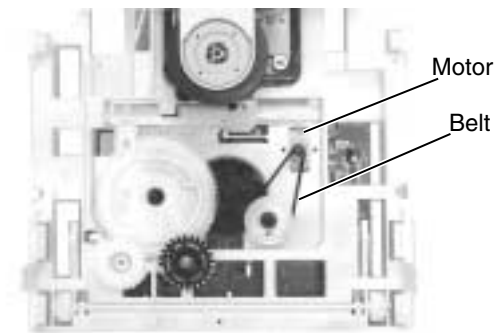

Fig.9 CD changer unit
■ Removing the belt, the Video CD board (See Fig.9 and 10)